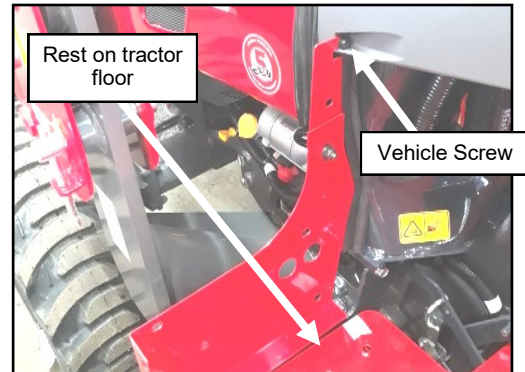
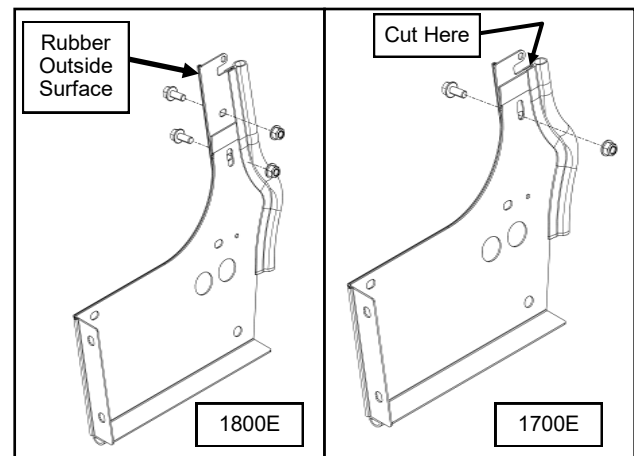

Fig. 3.1a (Install Front Legs)
Fig. 3.1b (Install Front Legs, Rubber)
- 3.1** Remove the small screw on the left side of the vehicle cowl and place the left leg with leg adapter assembly and mounting hardware (reference parts list on page 22) (the adapter with the factory installed rubber is for the left side of tractor). See fig. 3.1a for placement and figure 3.1b on how to install adapter onto left leg. Tighten 5/16" hardware. Remove leg from tractor.
- 3.2** Install 5/8" Standard Bulb rubber on inside edge and cut to length per fig. 3.1b. Install the left leg with leg adapter assembly re-using the small screw. See fig. 3.1a. For 1800E series tractors, install additional 5/16" hardware on top slot of adapter assembly as shown on fig. 3.1b.